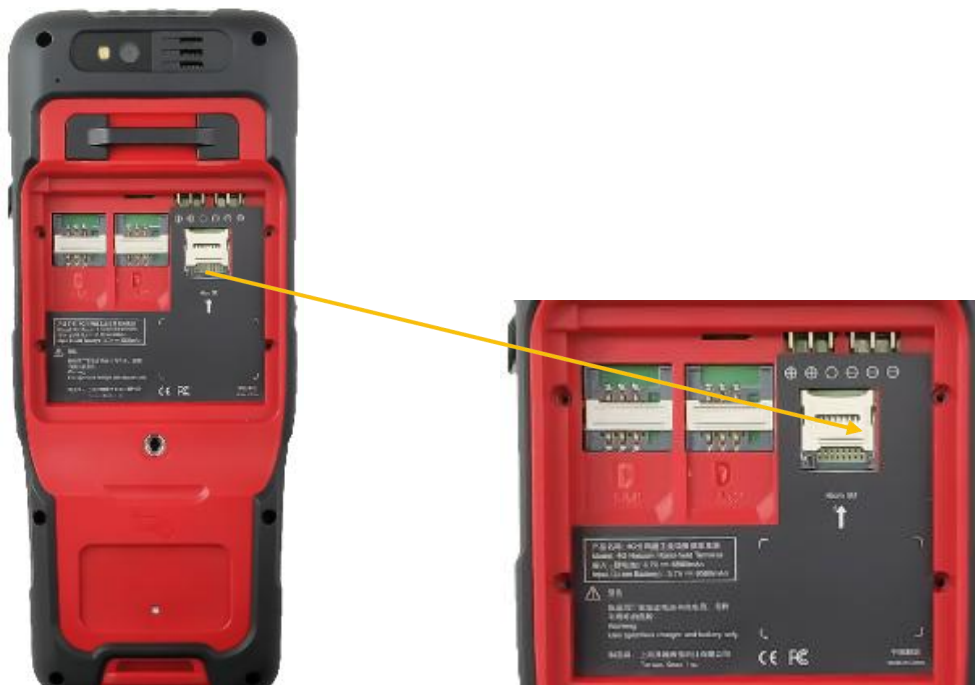

Figure 6.10 Insert Micro SD card
3. **Put the SIM Card in the holder:** Put the SIM card into the slot touching the SIM contacts of the phone as shown in Figure 6.10.